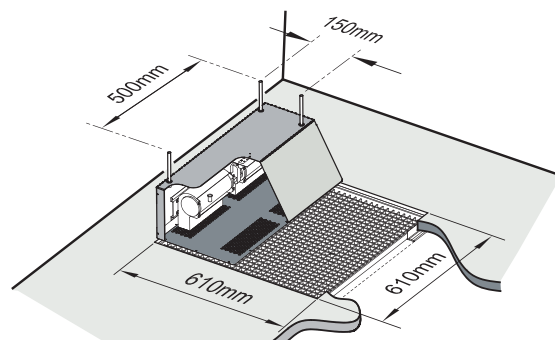
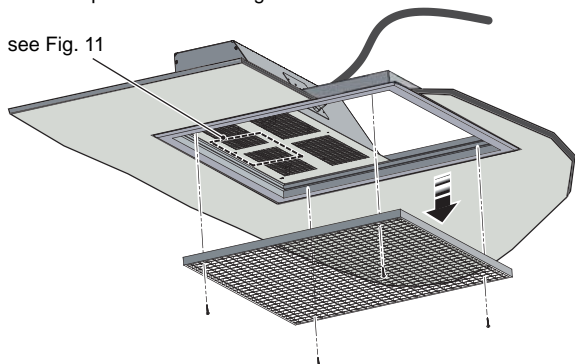
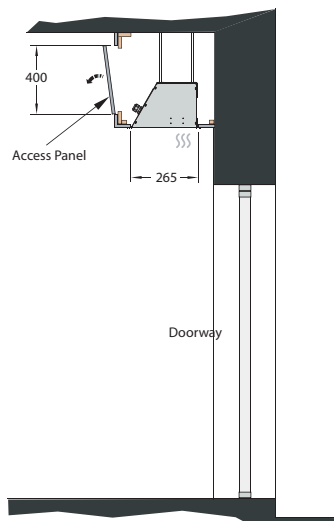
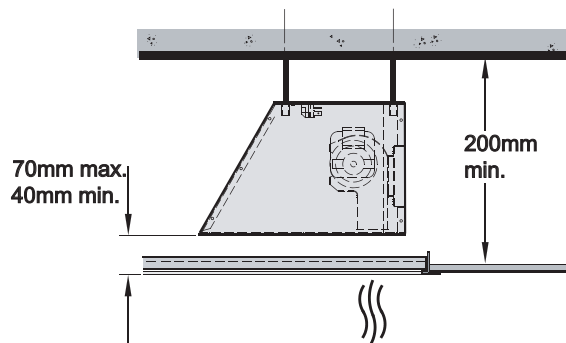

Fig. 1
Fig. 6
Fig. 7
Fig. 8
This heater can either be installed into a suspended or plasterboard ceiling. First it is necessary to ensure that 200mm of sufficient space exists above the ceiling for the Installation of this product (see **Fig. 1** and **Fig. 7**).
A hole (610x610mm) as indicated in **Fig. 1** and **Fig. 6** must be cut into the ceiling. It may be necessary to fix an internal supporting frame around the newly cut aperture in a plasterboard ceiling.
To mount the unit into the ceiling void, use lengths of threaded bar or hooks (not supplied) screwed into the M8 threaded inserts located in the top side of the heater (see **Fig. 1** for dimensions). Adjust the height of the heater so the air inlet/outlet panel is positioned inside the grille frame and no more than 70mm above the installed height of the egg crate grille which allows access for future maintenance. The unit should also be positioned inside the grille opening to achieve optimum air-flow effect, as shown in **Fig. 8**.
A hole (576x265mm) as indicated in **Fig. 7**, must be cut into the ceiling part of the bulk head. Drop rods should be used to mount the appliance in such a position, as to have the base flush with the ceiling. An access panel should also be provided on the front of the bulkhead. This provides access to the top of the appliance and the access plate for wiring the appliance.
1. Use suitable length M8 threaded bar and screw into the threaded inserts provided on the top of the heater - see **Fig. 1** for dimensions.